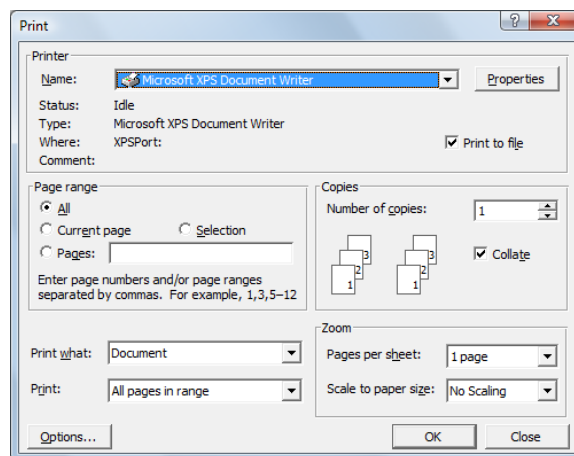

Fig. 20. Print dialog for screen shots
1. Click on the *Print* icon in the Quick Access toolbar to start the Windows print dialog shown in Fig. 20.